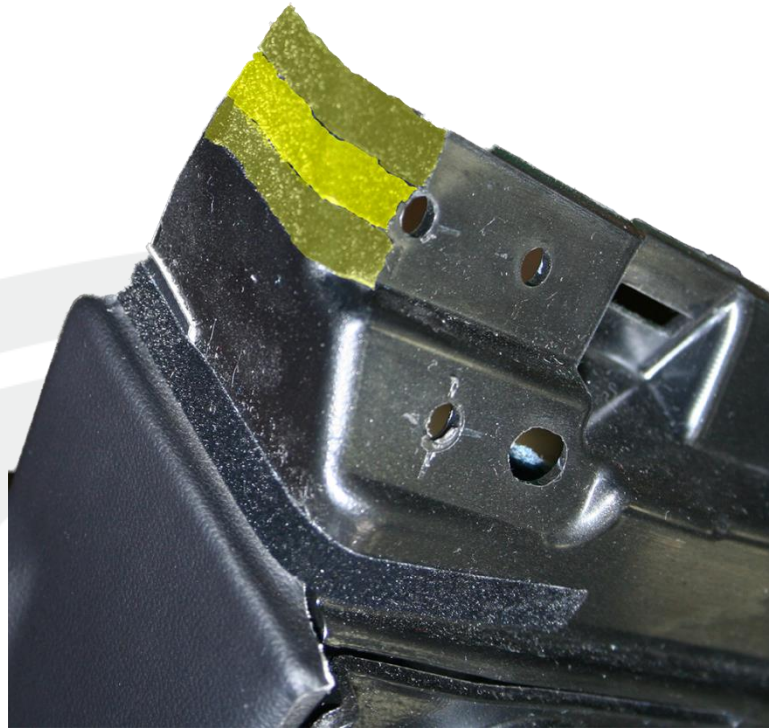

Figure 11 (3 Felt tape strips highlighted)
14. Cut 3 35 mm strips of felt tape and apply each strip to the top, rear corner of the door trim panel so that each strip wraps around the edge of the panel and ends near the first hole (Figure 11).